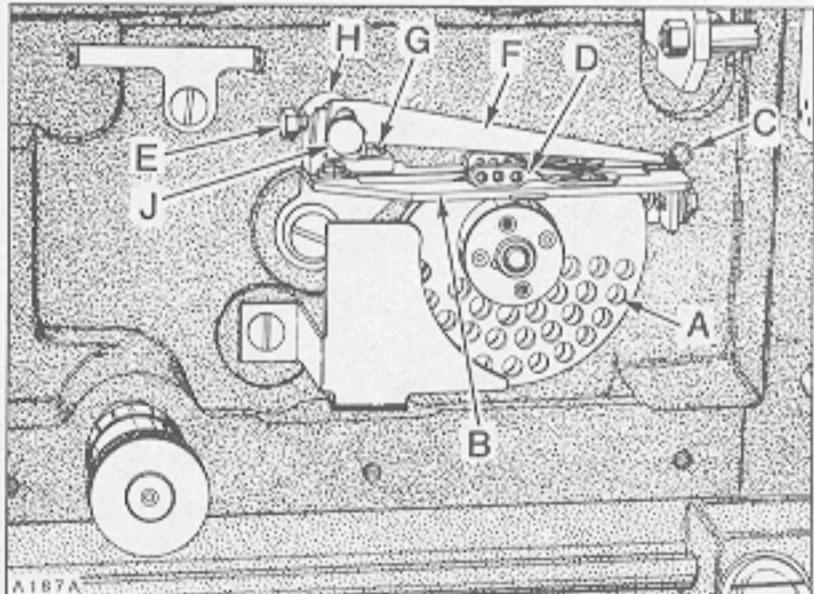
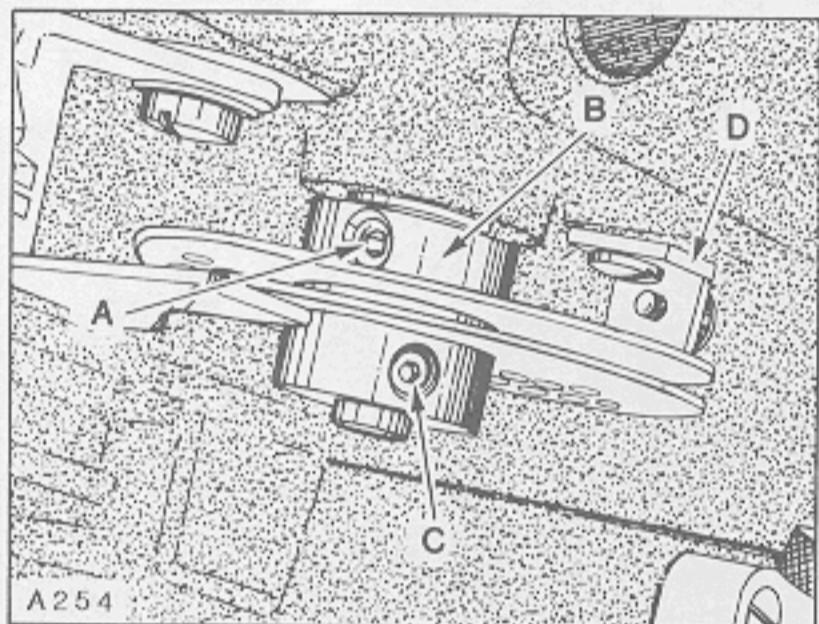

Fig.21
Fig.22
Looper thread take-up (A, Fig. 21) must be centered front to back in cast-off plate (B). It should also be positioned so as the needle bar is descending, the looper threads are "cast-off" the highest lobe of looper thread take-up when the point of the left needle is even with the bottom of its looper blade.
If adjustment is required, lift cast-off plate up. Loosen screw (A, Fig. 22) in positioning collar (B) and two screws (C) in looper thread take-up. Advance or retard take-up as required. Tighten two screws (C) securely in take-up making sure it is centered in cast-off plate. Positioning collar (B), which has a slot in its face, must be aligned with two screws which secure the discs of take-up together while THRUSTING positioning collar forward against take-up. Remove the play between screw heads in take-up and slot in positioning collar by applying pressure on the collar CLOCKWISE while tightening screw (A) securely. Cast-off plate (B, Fig. 21) should be positioned horizontally. Which can be adjusted by repositioning latch (C). Set adjustable eyelets (D) in the center of their mounting screws. More or less, looper thread can be supplied in the stitch by moving adjustable eyelets to the right or left respectively.